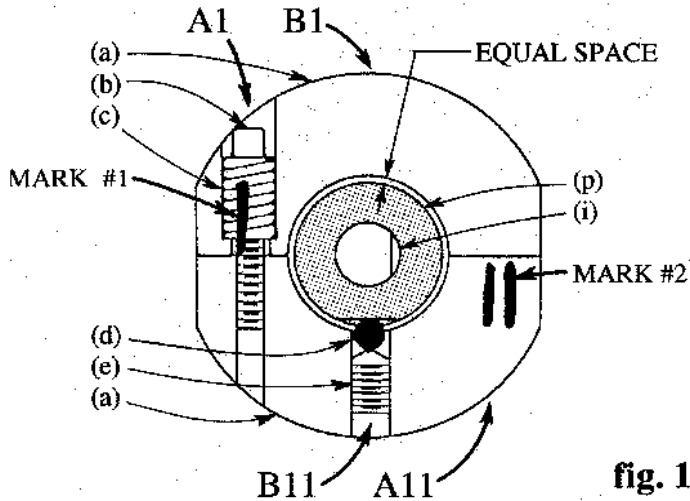
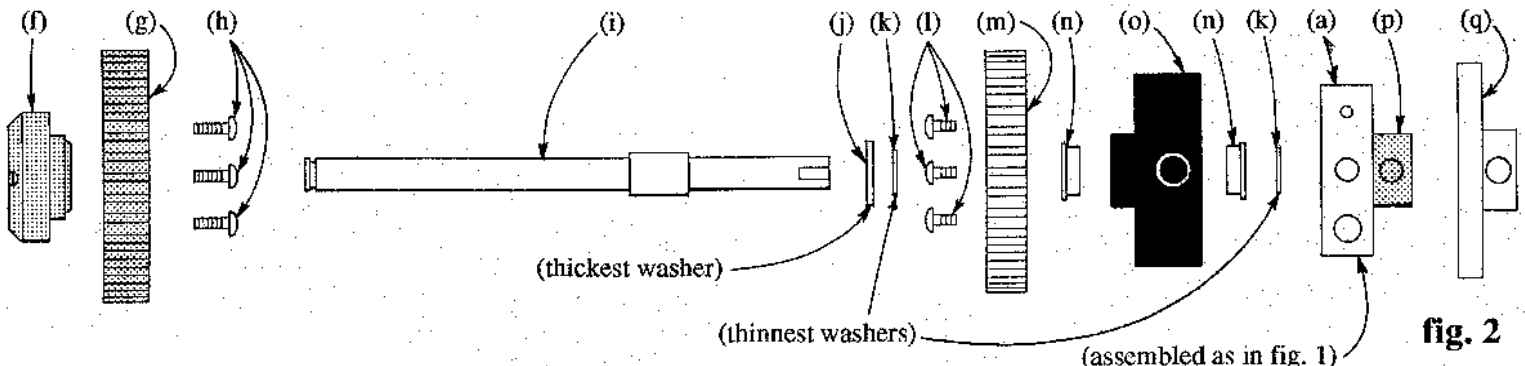

fig. 1
fig. 2
STEP 1 Take the two clutch shoe halves (a) and lightly deburr the three outside holes in each shoe with an Exacto knife. Now hold the two clutch shoes together, as in fig. 1, and take
STEP 2 From the center hole of the clutch shoes, slip the two steel balls (d) into their holes, as shown in fig. 1. Now slip the center hub (p) into the center hole. Install the two set screws (e) so they close down on the balls. Do not overtighten. The adjustment of these balls is very important and determines whether you will have a good, strong shift or a missed shift. Screw the set screws in until they barely start to push the balls against the two grooves in the center hub.
The balls must be adjusted so the center hub is exactly centered with an equal space around the center hub and between the clutch shoes, as shown in fig. 1.
STEP 3 Now slip the dust cover (q) over the center hub (p) as shown in fig. 2. Align the hole in the dust cover to match the hole in the hub and start the allen set screw in the hole. It is important to put a number 1 mark on the dust cover where shown in fig. 1. The number 1 should be marked exactly where the spring is, as shown. Now put a #11 mark on the cover where the second spring is.
the gear onto the clutch bell (o) (fig. 2). You'll notice one side of the gear is machined to slip over the bell. The gear is a tight fit on the bell. An easy way to get it aligned and installed is to take the three long round head allen screws and pull the gear down. Then remove the long round head screws and replace them with the three short round head screws, and tighten the screws down.
STEP 6 Now we're ready to assemble the transmission. Slide the thick washer (j) onto the short end of the idler shaft (i) as in fig. 2. Then slide one of the thin washers (k) onto the shaft. Push the two ball bearings (n) into the clutch bell (o) with your fingers. Slide the bell on the shaft. Now slide the other thin washer (k) on. Now slide on the clutch shoes with the dust cover (a, p, q) and tighten down hard on the set screw. Spin the gear. It should spin very freely. If it doesn't spin freely, loosen up the set screw and slide the clutch shoes out a couple thousands and re-tighten the set screw. This gear must spin freely.
STEP 7 Now slip the gear (g) and hub (f) onto the shaft right next to the other gear (fig. 2). This gear will turn in only one direction and should not turn in the other direction. It will not spin as freely as the other gear.